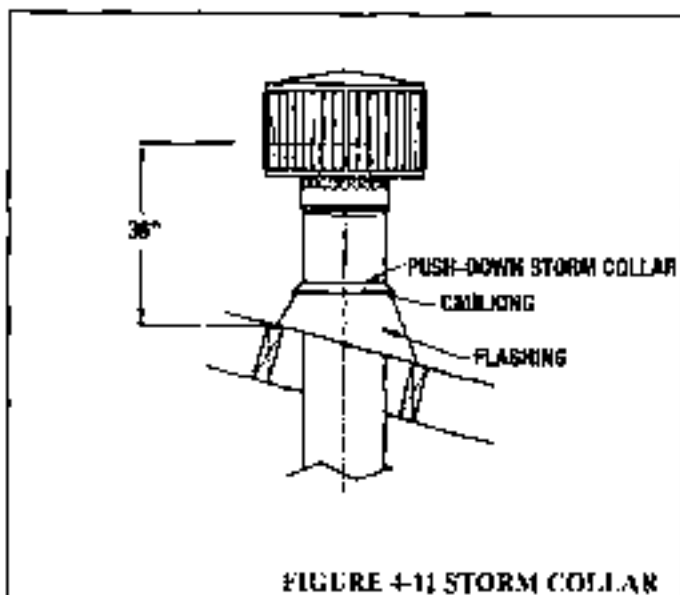

FIGURE 4-11 STORM COLLAR
6. Apply a waterproof caulking around the top of the storm collar. Refer to Figure 4-11.